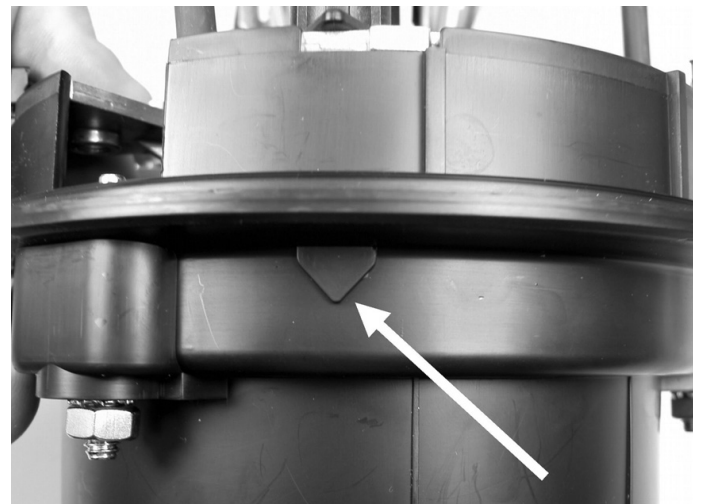
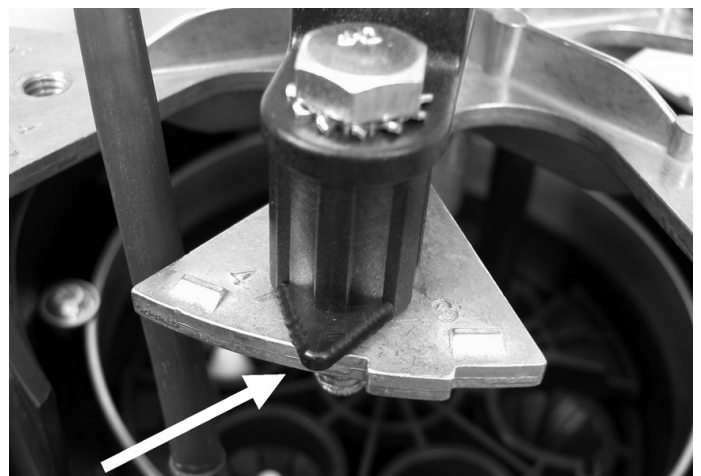

Fig 18
Fig 19
4. Slide the base up and over the gel end piece, make sure the wire clips and ground wires are back out of the way. Make sure to line up the arrow on the base (Figure 18) with arrow on the top of the frame (Figure 19).